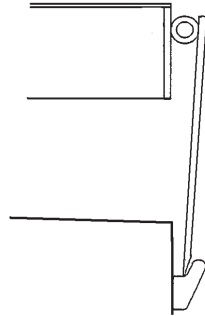

Figure 25
5. Once the lip is pendant, continue to press the LOWER button until the unit descends into the lip keepers, see **Figure 25**.